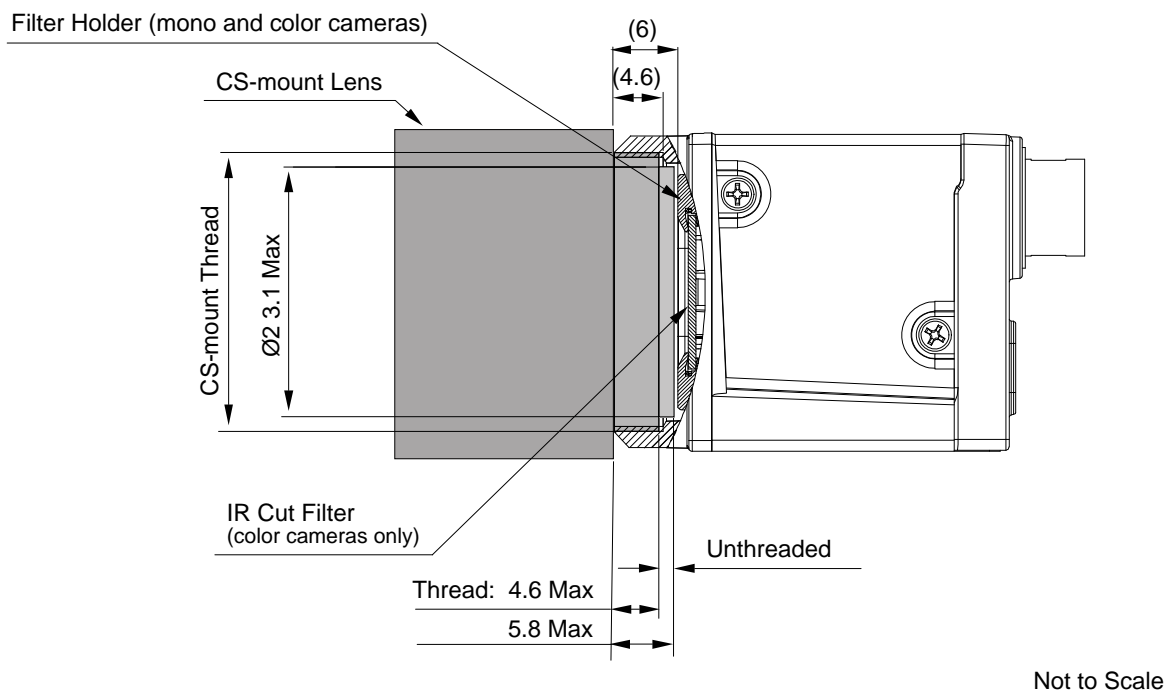

Fig. 28: Maximum Lens Thread Length (Dimensions in mm) for Cameras with the CS-mount
- Camera with CS-mount (see Figure 28):